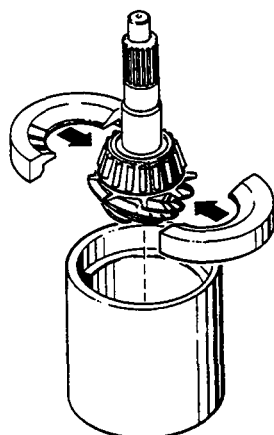

Figure 16
9. Remove the pinion rear bearing cone using the type of extractor shown in Fig. 16.